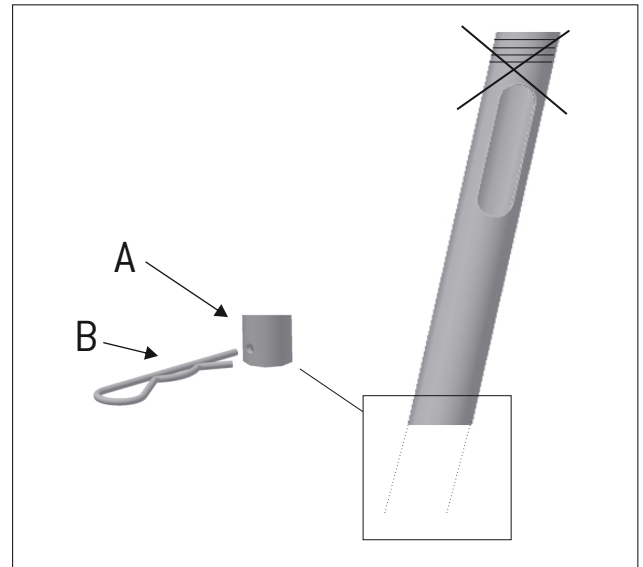

Figure 2
- 2 - A hole will have to be made at the opposite end of the stem from where the thread is. The hole must be done 5mm (0.2/8") from the end of the stem and have a 3mm (0.1/8") diameter (A) in order to be able to insert the retaining clip (B). We recommend to mark the spot with a pointy object. Hole has to go through both sides of the stem. Figure 2.